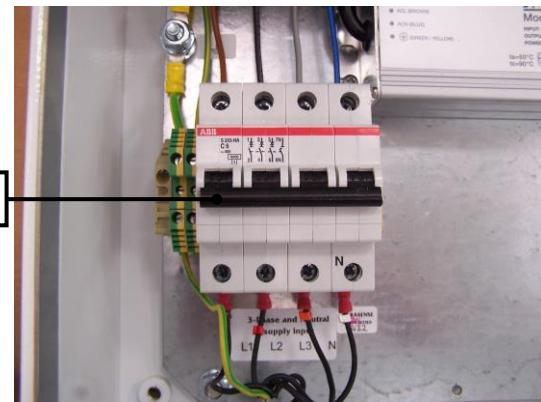

Fig 4.0
Switch off the mains supply to the SFP and wait for a few seconds while the power supply discharges. Open the door with the key provided, switch off at the internal circuit breaker (1) (see Figure 4.0).